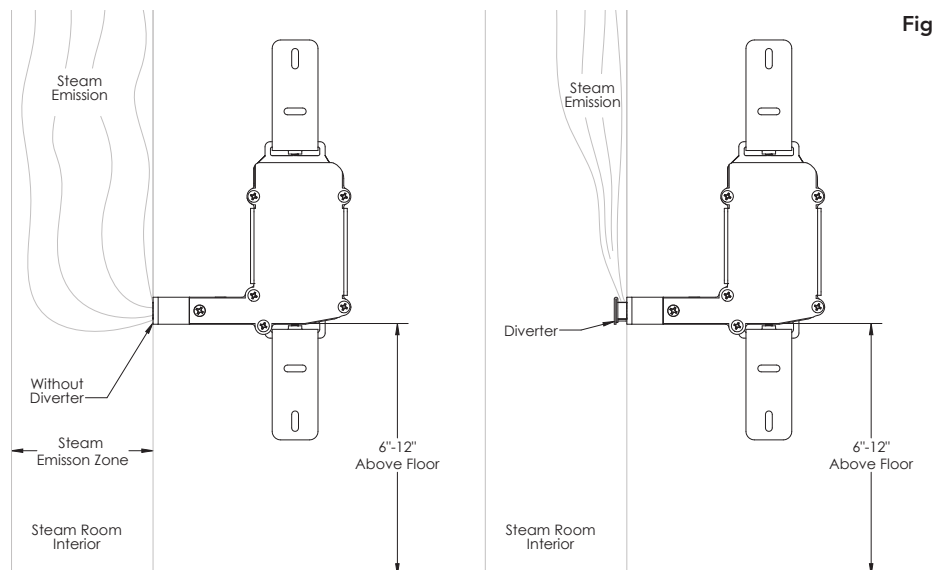

Figure 2
- Install in orientation shown in fig 2 only. Installation in any other orientation may concentrate the steam and result in excessive temperature. Failure to install in correct orientation may result in steam head operation where incidental contact by the bather with direction steam emission may occur. Failure to follow these instructions may result in a hazardous condition, scaling or personal injury.
CAUTION Because steam emissions are very hot, locate the steam head where incidental contact by the bather with direct steam emission cannot occur. Do not locate the steam head in any location where the steam emission zone is near a seat, bench or any space occupied by any persons. See Fig. 2 for a diagram of the steam emission zone. Failure to follow these instructions may result in a hazardous condition, scalding or personal injury.
STEP 1. Locate the steam head 6-12" above the finished floor. Do not locate the steam head in any location where the steam emission zone is near a seat, bench, or any space occupied by any persons. See Fig. 2 for a diagram of the steam emission zone.